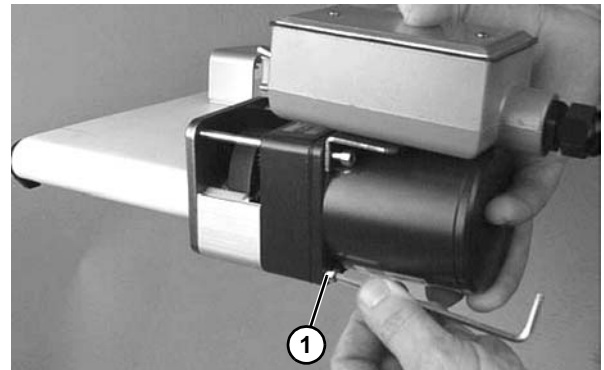

Figure 54
6. Insert gearmotor drive pulley into timing belt. Mount assembly with two (2) bottom screws (Figure 54, item 1). Tighten to 45 in-lb (5 Nm).